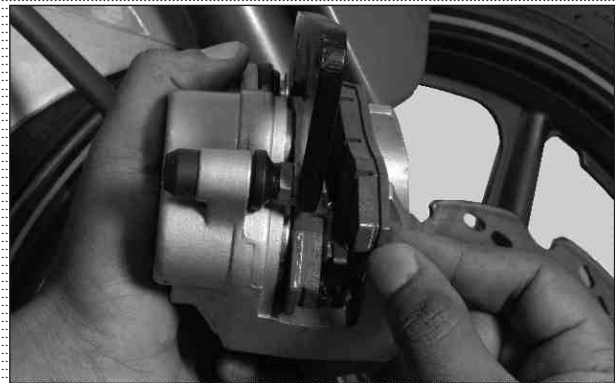

Fig. 2.69
- Pull out pad complete inner and pad complete outer by hand. (Fig. 2.69)